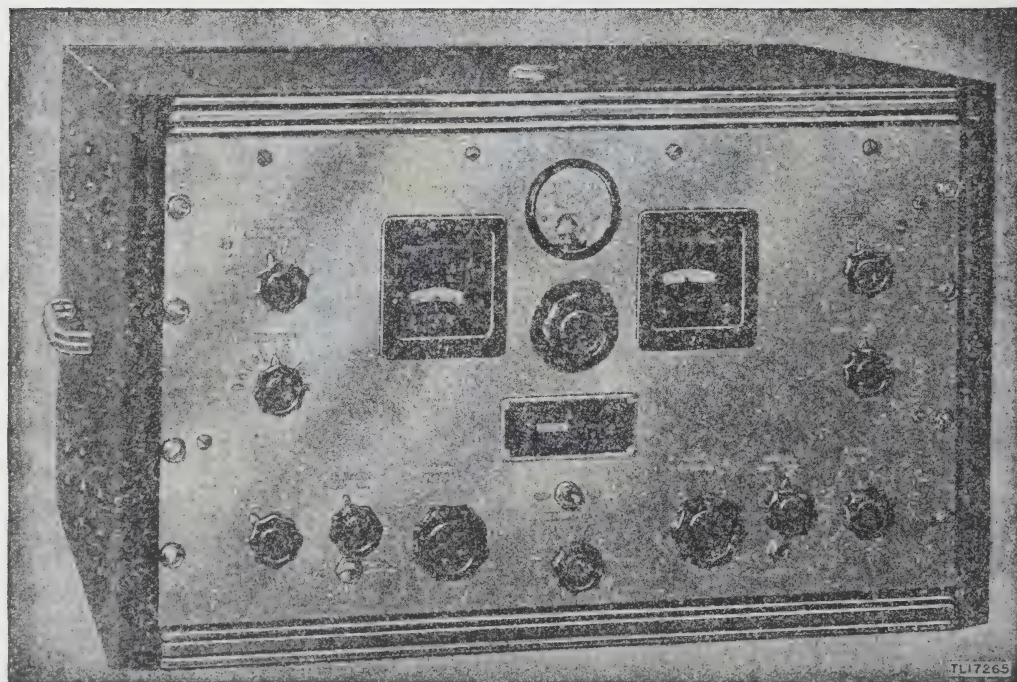
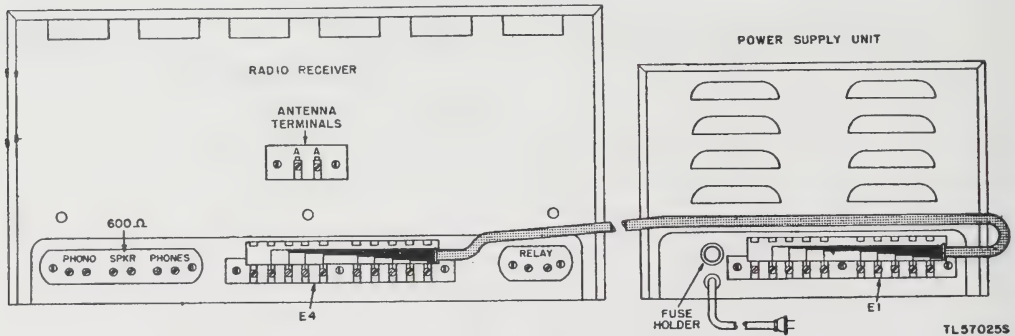
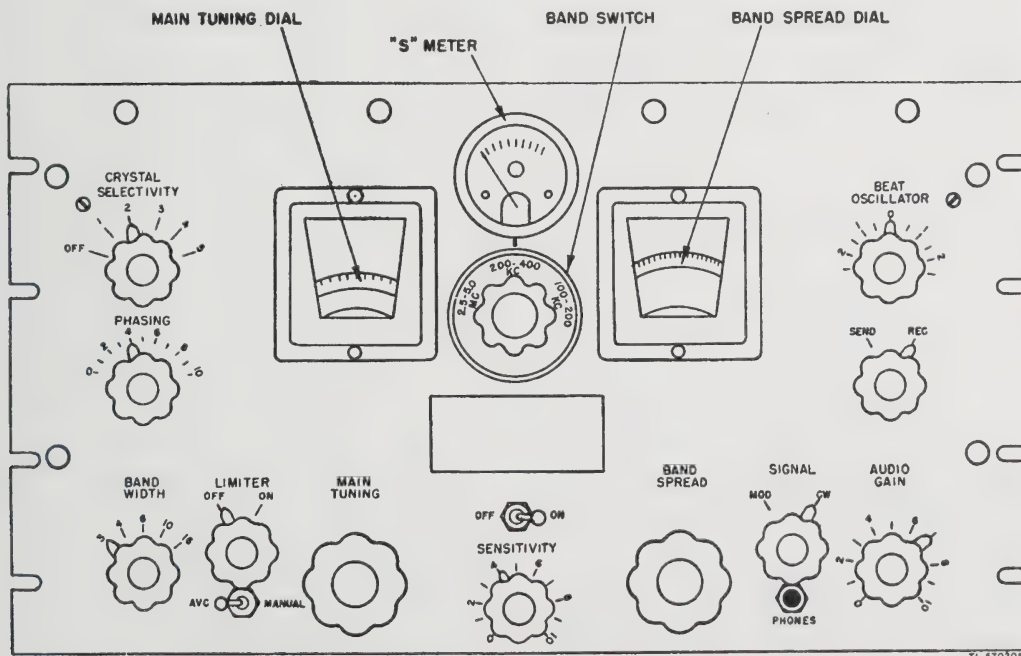

Figure 6. Radio Receiver BC-779-B in Cabinet CH-104-A.
Figure 10. Cable connections for a-c operation.
Figure 15. Radio Receiver BC-779-B, front panel.
in Cabinet CH-104-A (fig. 6). The under side of the receiver chassis is equipped with a steel cover plate which has heavy, felt-covered feet in the corners. The rear of the chassis (fig. 10) is provided with a terminal strip which is used in making connection either to the power supply unit or to batteries. The S meter located at the top center of the receiver panel is not supplied with Radio Receiver BC-1004-D.
(1) Remove the sheet metal covers from the terminal strip E4 on the rear of the receiver and from the terminal strip E1 on the power supply unit.
(2) Make sure that all 10 screws on each strip are unscrewed at least three turns.
(3) Attach one end of the connector cable to each terminal *exactly* as shown in figure 10 and
d. EARPHONES. Insert the plug of Headset HS-30 (or any other available headphone) into the PHONES jack (fig. 15), or connect it to the screw terminals marked PHONES on the rear of the chassis (fig. 10). No matching transformer is necessary.
15. Receiver Controls (fig. 15)
o. SEND-RECEIVE SWITCH. This switch is provided for use when the receiver is used with an associated transmitter. The receiver is silenced when the switch is in the SEND position. This position allows the receiver to remain ready for instant use. The RELAY terminals at the rear of the receiver (fig. 10) are for convenience in connecting a relay to disconnect automatically the receiver in preference to operating the SEND-REC switch.
q. SPKR TERMINALS. These terminals on the rear of the receiver (fig. 10) are provided so that a permanent magnet type loudspeaker may be connected to the output of the receiver.